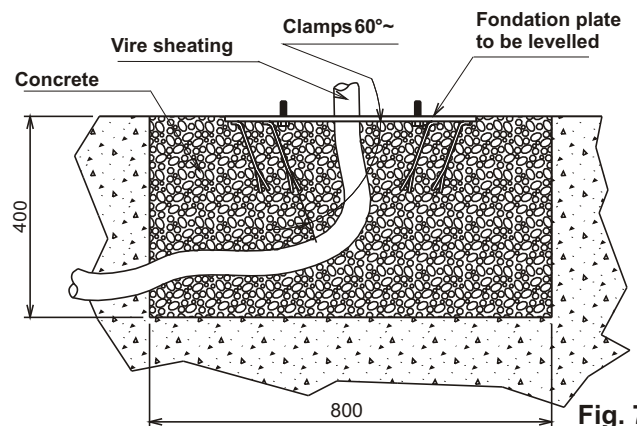

Fig. 7
- Widen the foundation plate clamps at 60° (Fig. 7)
- Fill the hole with R425 concrete and place the foundation plate as in Fig. 7.